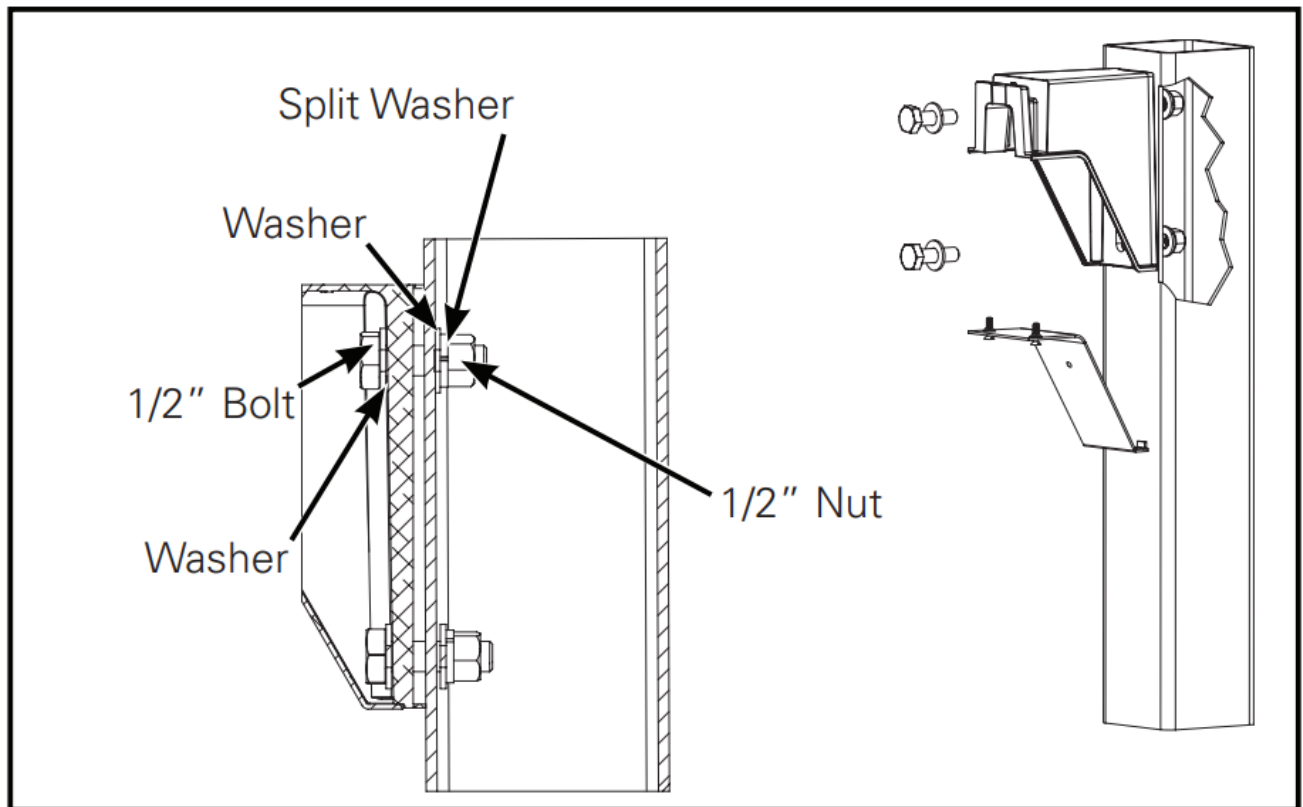

Figure 2.
2. Mount the arm to the round or square pole using the provided 1/2" x 1-3/4" long bolts and nuts as shown. Torque bolts to 40 foot-lbs. (55 N-M). (Figure 2.)